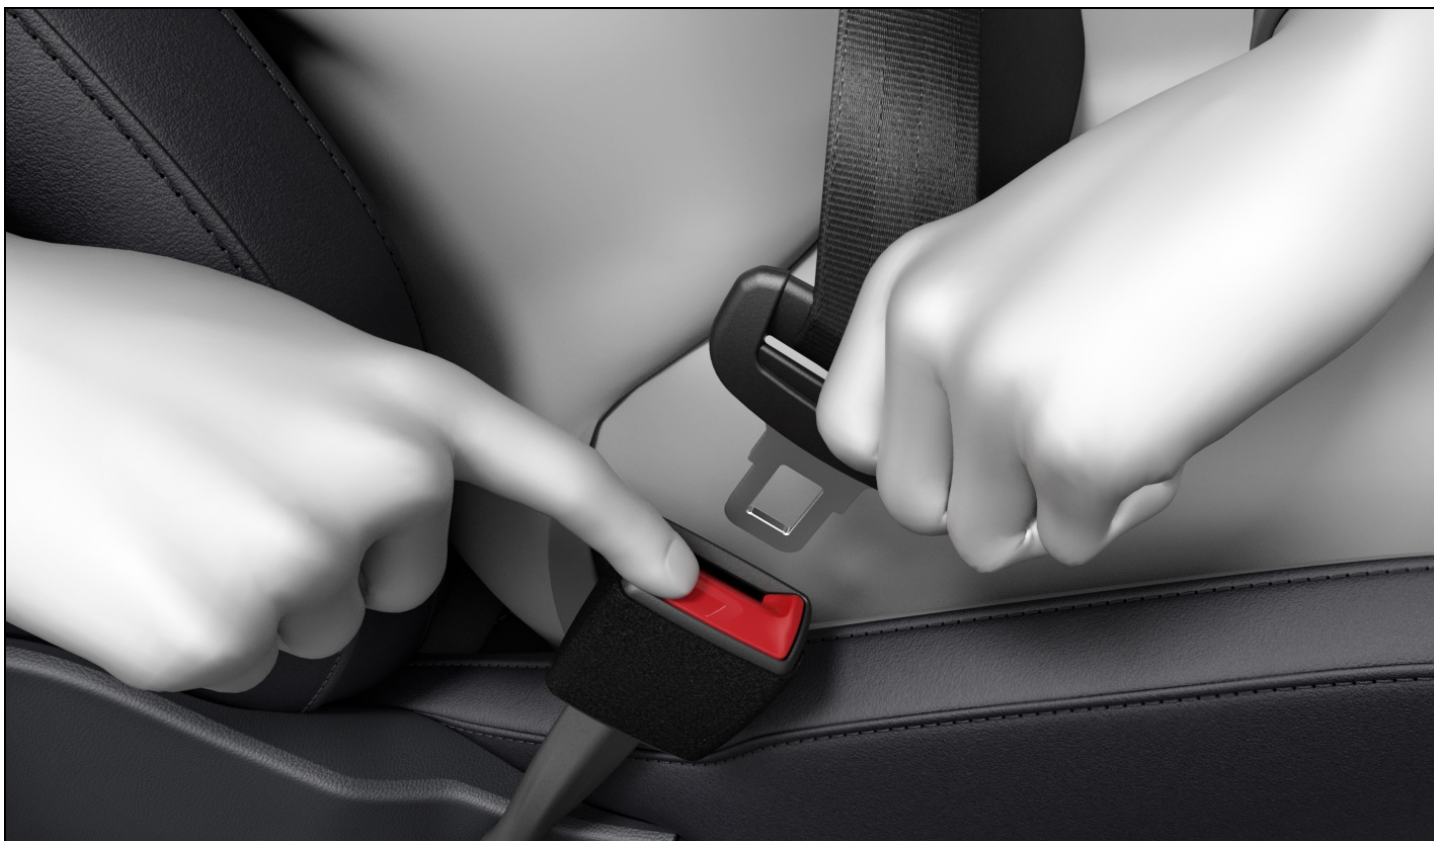

Fig. 19 Releasing the buckle tongue from the safety belt buckle (general example).
1. Press the red button in the safety belt buckle *fig. 19*.